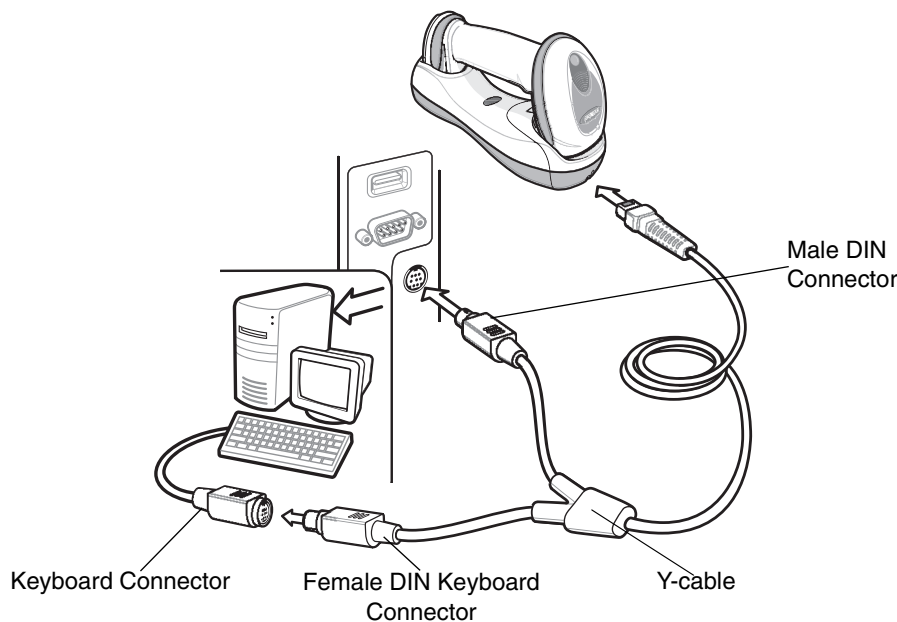

Figure 9-1 Keyboard Wedge Connection with Y-cable
- ✓ **NOTE** Interface cables vary depending on configuration. The connectors illustrated in Figure 9-1 are examples only. The connectors may be different than those illustrated, but the steps to connect the cradle remain the same.